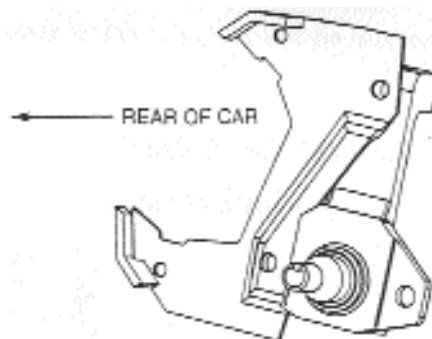

FIGURE 1
13. The caliper bracket attaches to the spindle so that the caliper will be located toward the rear of the vehicle. This is accomplished by mounting the bracket with the ears toward the rear and the "tangs" pointing toward the outside (see Figure 1). Using the 5/8" bolt supplied, attach the bracket to the spindle. Attach the steering arm with the bolts from the drum assembly, using one of the bolts to attach the bracket to the spindle. Torque all three bolts to the specifications in the owners manual.